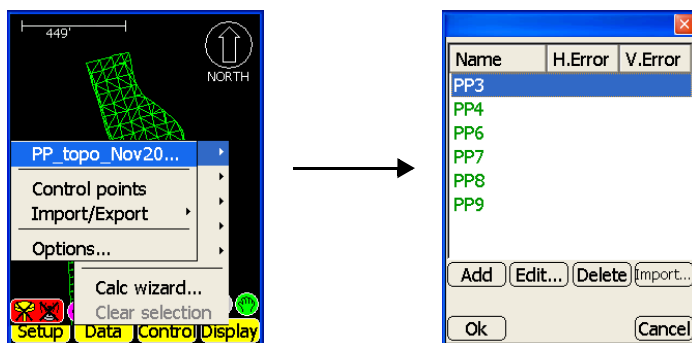

Figure 4-18. Open Control Point File
- Press **Data ▶ Control ▶ Control points**. On the *control points* dialog box, select the Control Point to be localized, and press **Edit** (Figure 4-18).